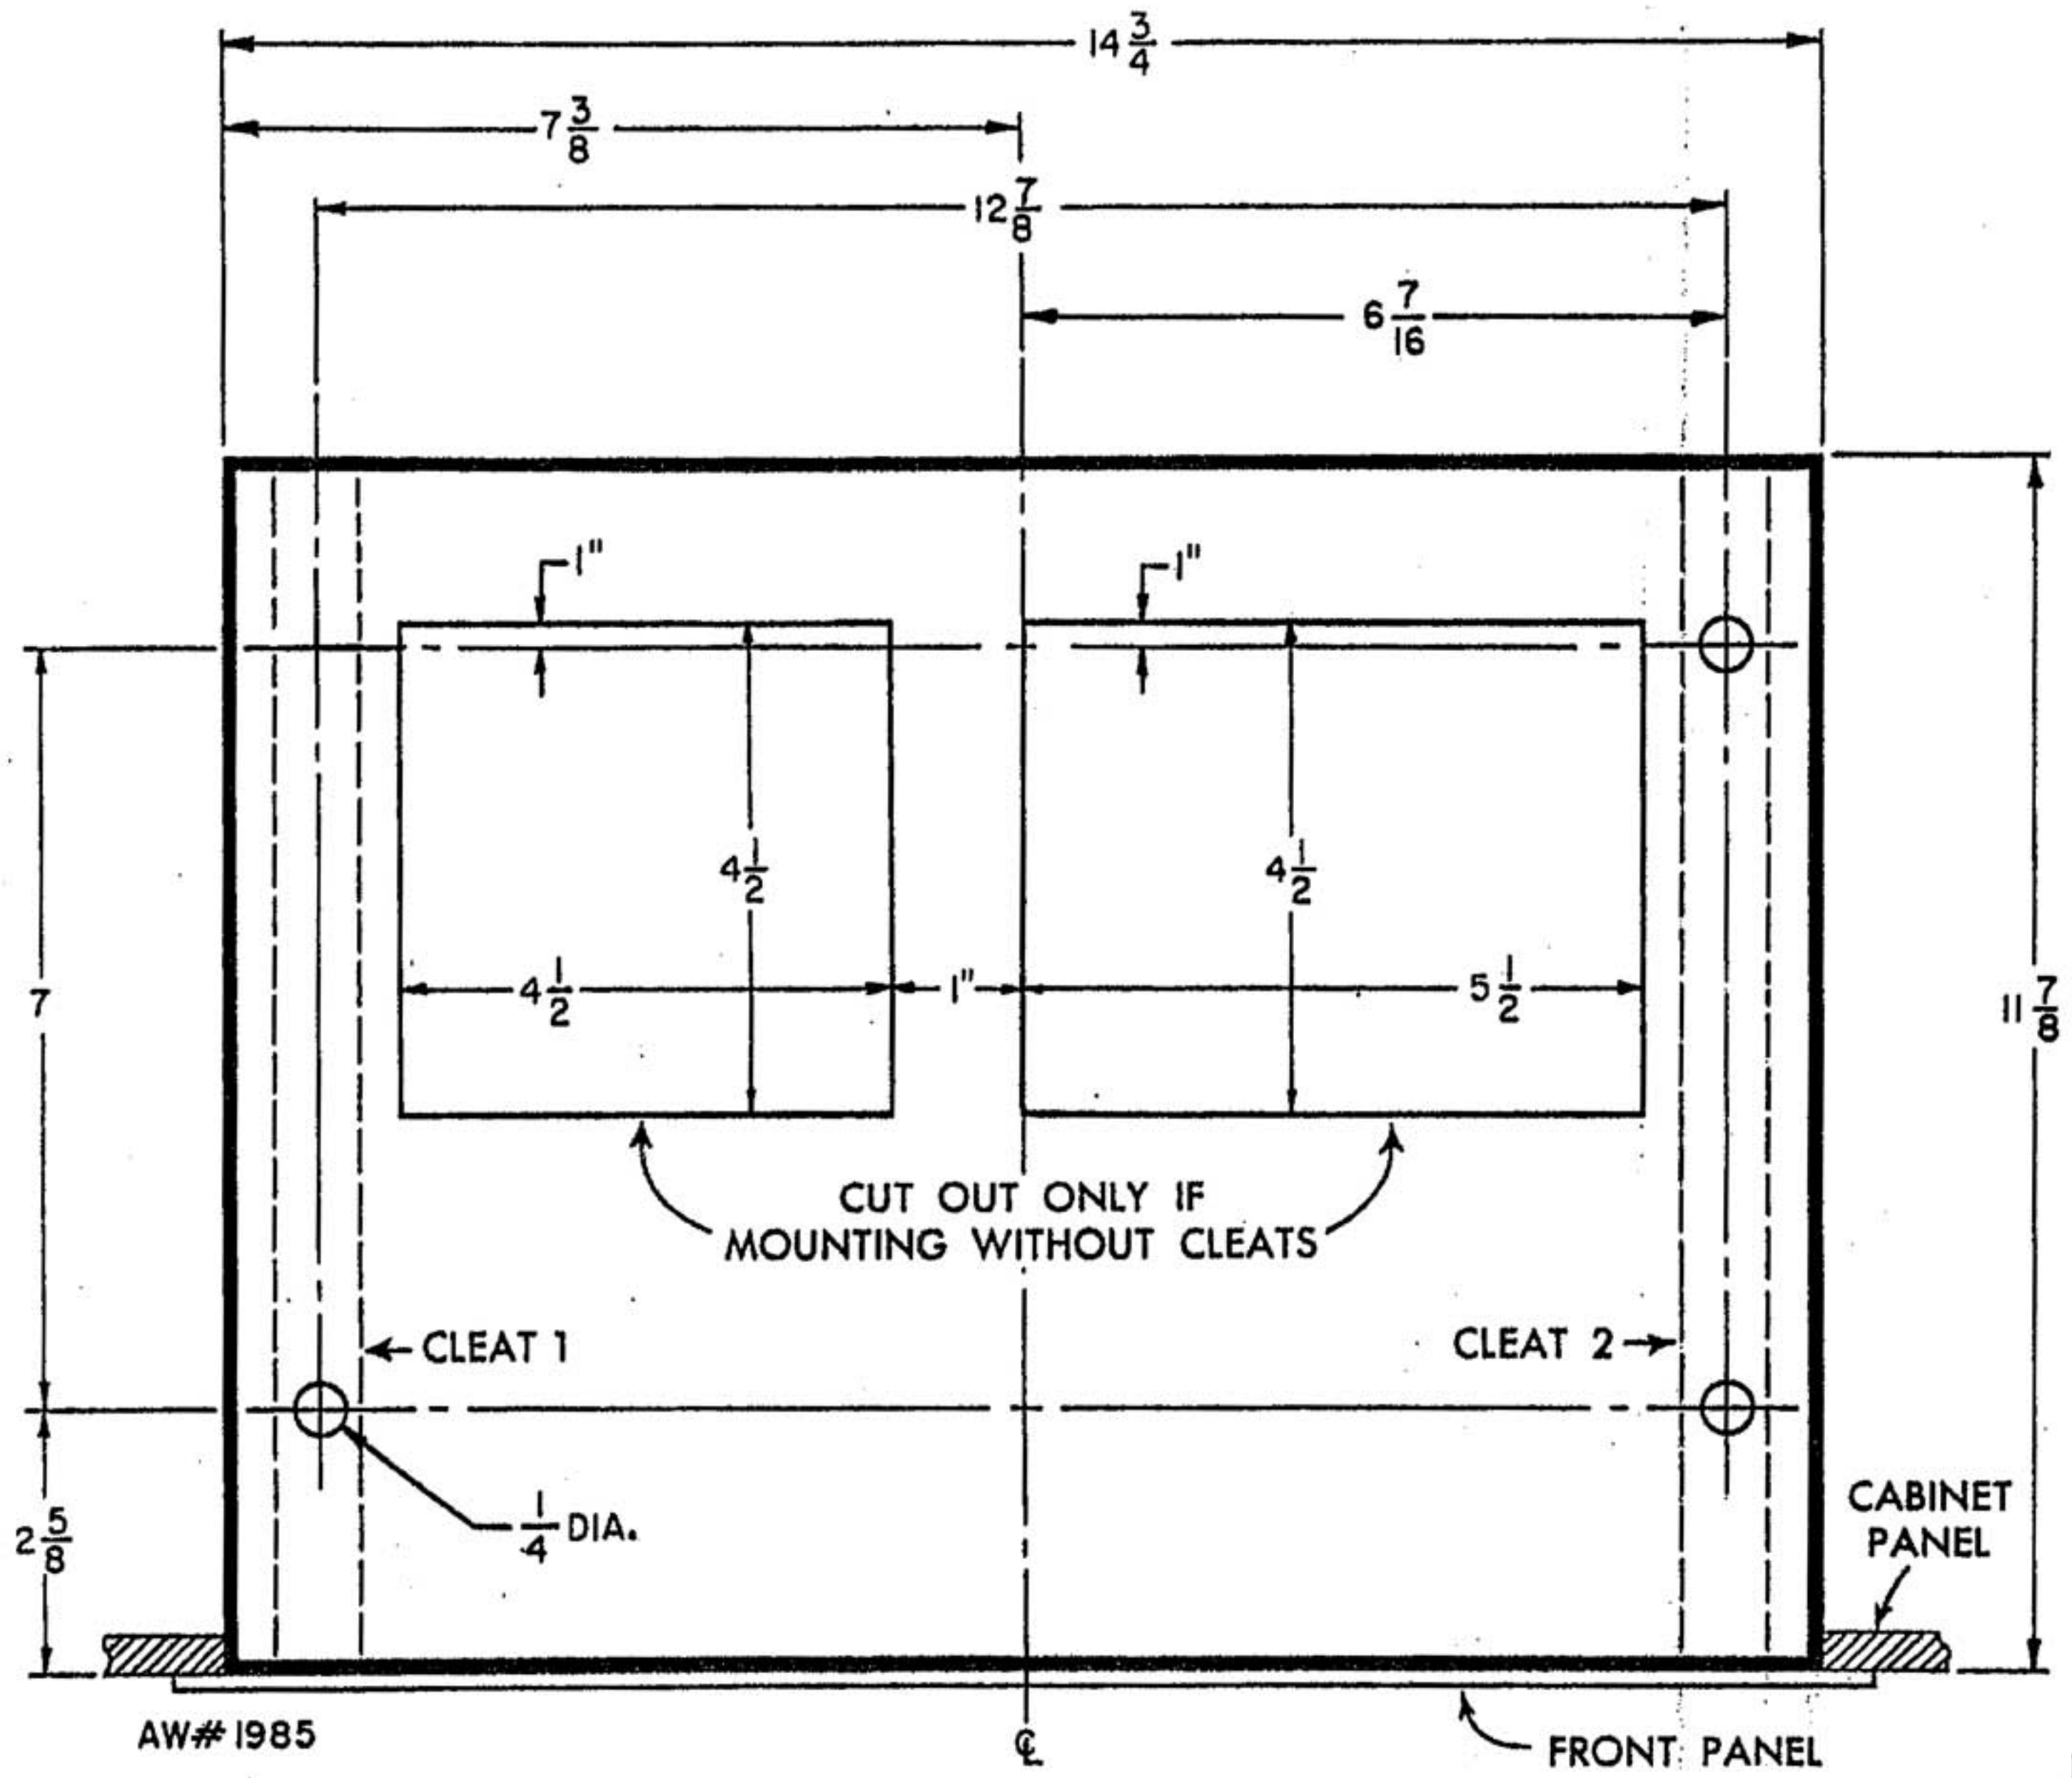

FIGURE 2. Top view of custom installation.
- 2 — Fasten the two cleats to the top of the mounting board with wood screws, in the positions shown in Fig. 2. Then locate and drill three $\frac{1}{4}$ -inch holes through the mounting board and cleats as indicated.
1—Cutouts must be made in the mounting board beneath the ventilation holes in the bottom cover of the *KX-200*, as shown in Fig. 2. The back of the cabinet must remain open.
2—Locate and drill three $\frac{1}{4}$ -inch holes in the mounting board as shown in Fig. 2.